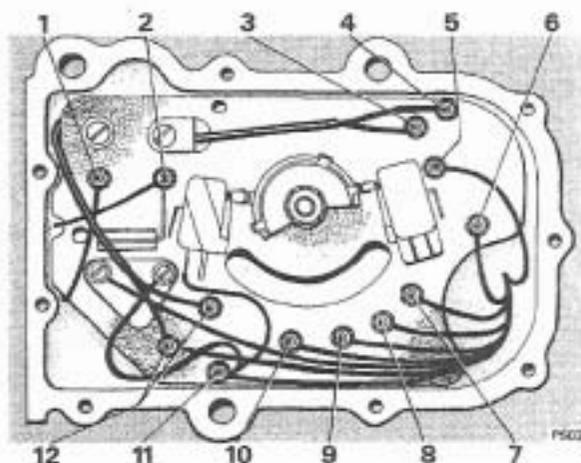

FIG. T154 WIRE CONNECTIONS
17. Fit the four 3 B.A. nuts and washers to the contact plate and connect the motor feed cables and the suppressor across the relay mounting bolts as shown in Figure T154. All slack in the motor cables should be taken up by rotating the eyelets about the terminal posts.
20. Fit all cables to their respective connections in accordance with Figures T154 and T156.